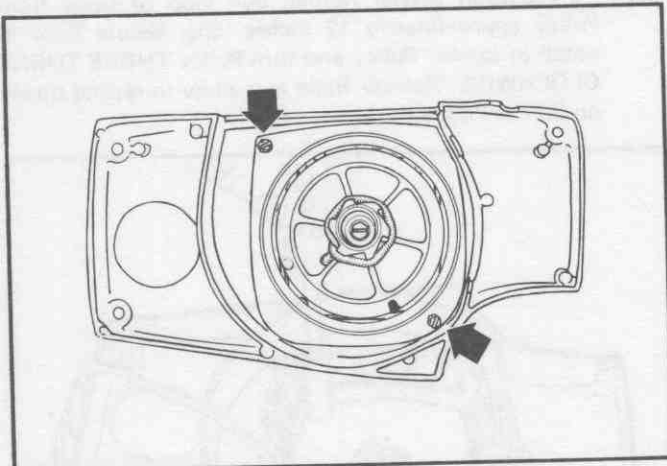

Fig. 22
31. To replace the Starter Spring, follow the procedures described in Fig. 22 thru 25. Next remove two Screws and remove Starter Spring Shield.